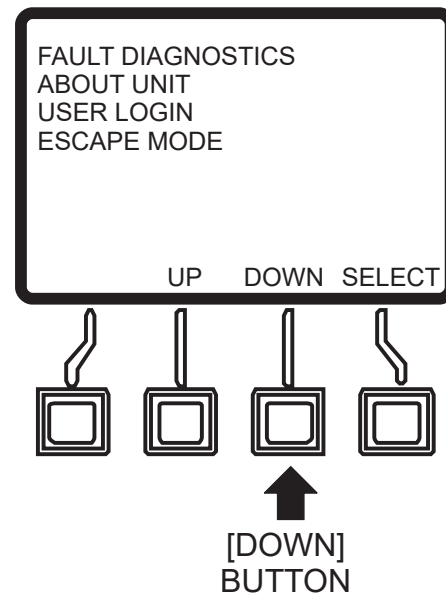

Figure 92. Main Menu (Down Button)
4. Press the [DOWN] button (Figure 92) to scroll to the Escape Mode item.